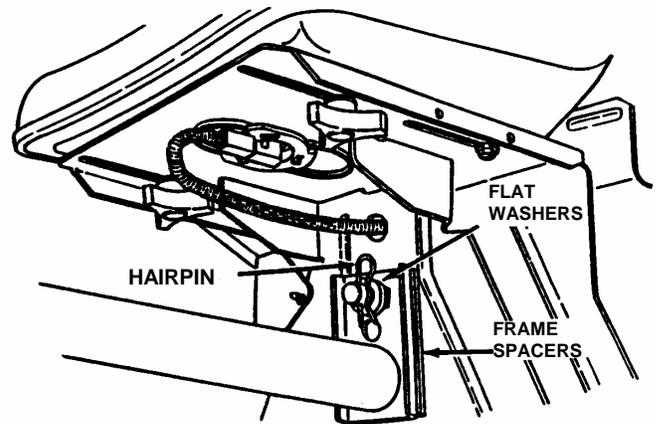

FIGURE 4.2
5. Remove hairpin and flat washers from pivot stud. See Figure 4.2.
8. Reinstall the required amount of flat washers removed in step "5." and install hairpin. See Figure 4.2. Retain any remaining spacers for readjustment when a new belt is installed.
The automatic Blade Brake should stop the blades within 3 seconds anytime the blades are disengaged by moving blade lever to the "OFF" position or by releasing the Blade Pedals. When the Blade Brake is properly adjusted there should be 1/16" to 1/8" clearance between the Blade Engagement Lever and the back of the Latch Plate. Check this by disengaging the Blade Lever and depressing the Blade Pedals as shown in Figure 4.2. If clearance is greater than 1/4" perform the following adjustment.